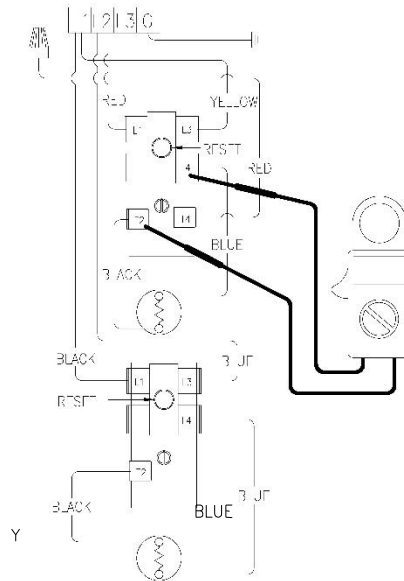

Figure 28
5. Check across terminals L4 and T2 of upper thermostat (see Figure 28).